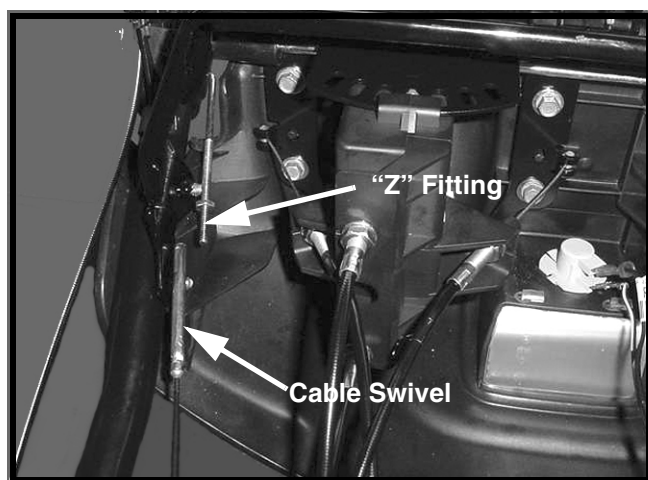

FIGURE 3
7. At the auger clutch engagement handle (LH side), loosen the jam nut on the clutch engagement cable swivel and unscrew the swivel from the "Z" fitting. See Figure 3.